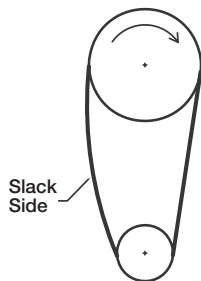

Figure 18a
- Sizes 099-161:** Belts should be tensioned just enough to prevent slippage at full load. Belts should have a slight bow on the slack side while running at full load; see *Figure 18a*.